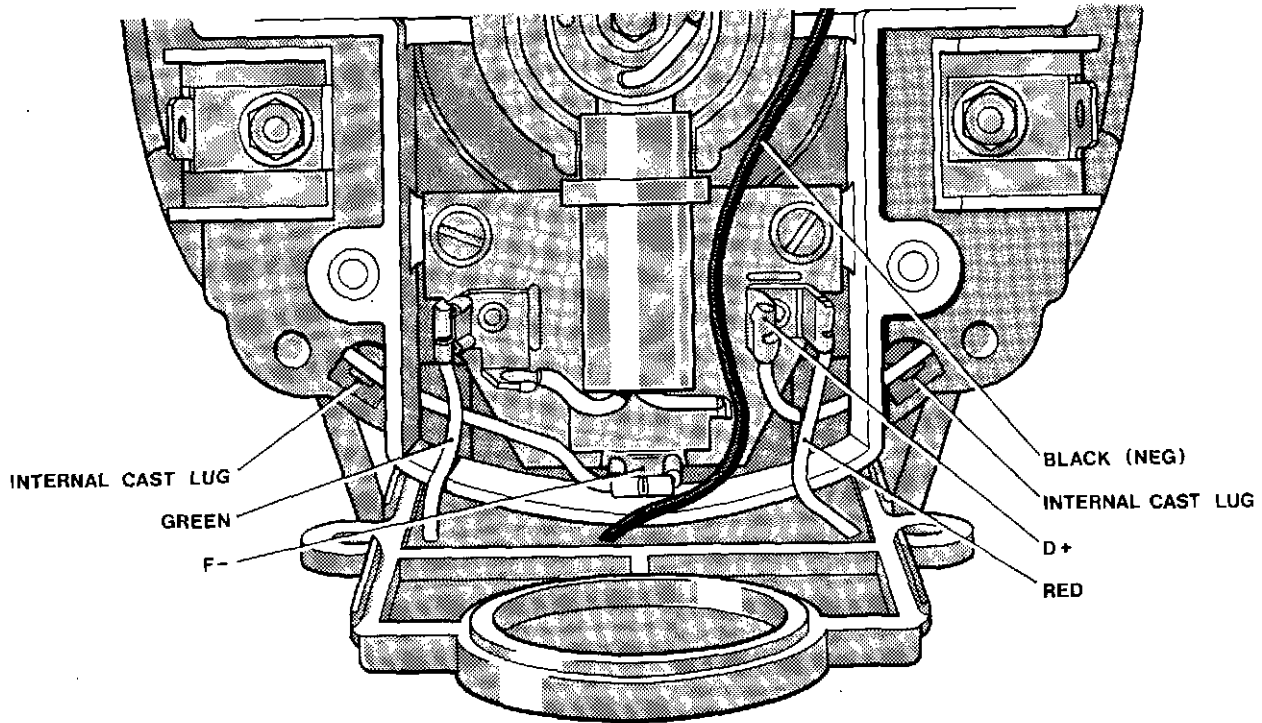

Fig. 2 Regulator connections
- 51 Connect D+ and F- leads to the Lucar terminals as in figure 2. Ensure that both leads are located under the internal cast lugs.
- 52 After making the connections (fig. 2), fit the regulator, using two screws and Belleville washers. Tighten the screws evenly to 1.69 Nm (15.0 lbf.inch).